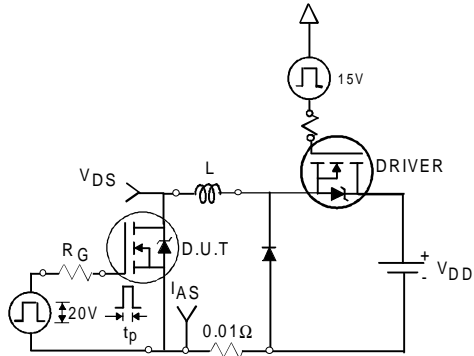

Fig 12a. Unclamped Inductive Test Circuit
| E_{AR} | Repetitive Avalanche Energy⑦ | See Fig.12a, 12b, 15, 16 | mJ |
- ③ $I_{SD} \leq 82A, di/dt \leq 310A/\mu s, V_{DD} \leq V_{(BR)DSS}, T_J \leq 175^\circ\text{C}$
- ④ Pulse width $\leq 400\mu s$; duty cycle $\leq 2\%$.
- ⑤ $C_{oss \text{ eff.}}$ is a fixed capacitance that gives the same charging time as C_{oss} while V_{DS} is rising from 0 to 80% V_{DSS} .
- ⑥ Calculated continuous current based on maximum allowable junction temperature. Package limitation current is 75A.
- ⑦ Limited by T_{Jmax} , see Fig.12a, 12b, 15, 16 for typical repetitive avalanche performance.
3. Equation below based on circuit and waveforms shown in Figures 12a, 12b.